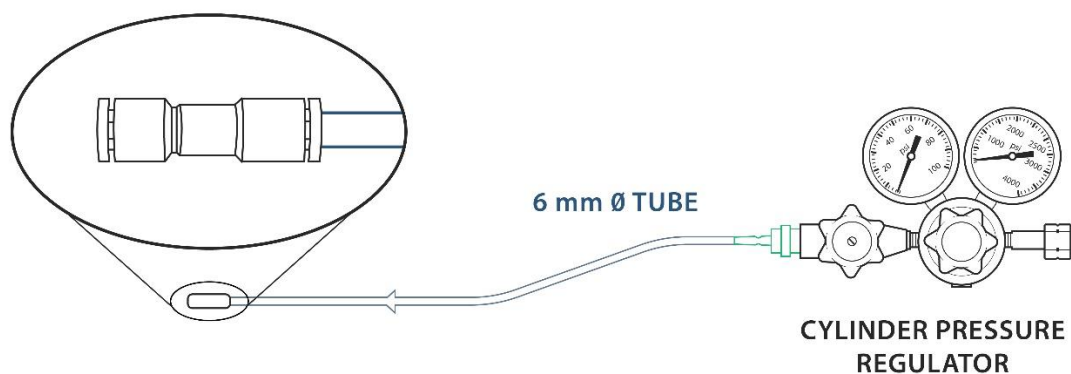

Figure 3-4
- 2. One Touch Valves** - Install the One Touch Valves (provided in the package) along the gas line for each of the gas source in use (Except for CO₂). In order to do so, take the free end of the tube previously connected to the pressure regulator and insert it in the valve through the push-in connector (Figure 3-4). In case of different valves type use, please contact the MCQ INSTRUMENTS support center.